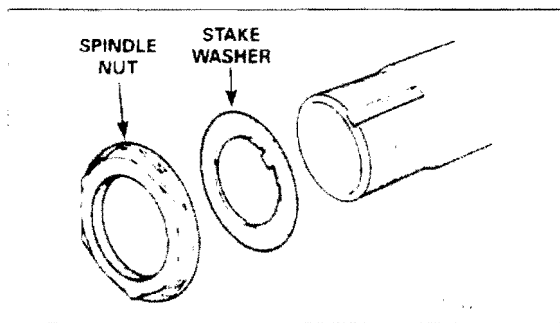

Figure 10
4. Check the spindle threads. Figure 10